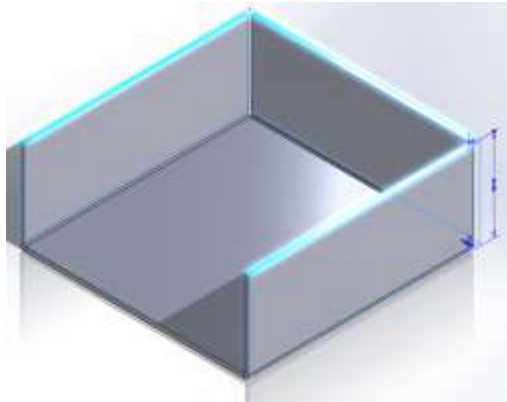
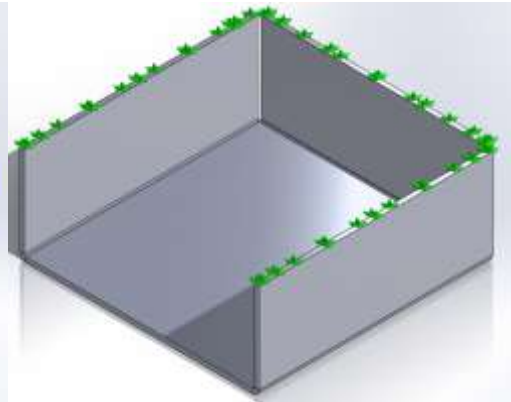

Figure 7
Figure 8
3. Right-click on *Fixture* in the simulation tree and select *Fixed Geometry*. While in the *Fixture* tab select *Immovable (No translation)* under *Standard (Fixed Geometry)*. Then select the face shown in Figure 7 and click okay. Your simulation should now look like Figure 8.